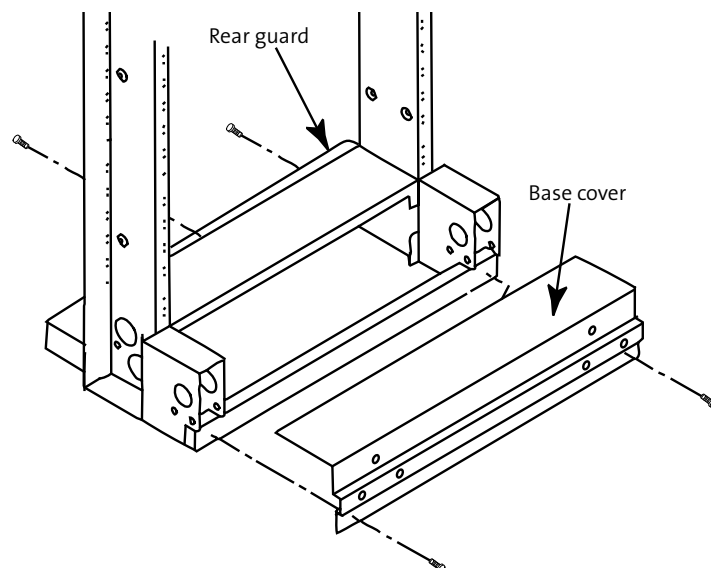

Figure 2
Step 2: Remove the base cover from the base and save the screws (Figure 2).
Step 7: Attach the base cover to the rack assembly as illustrated in Figure 2.